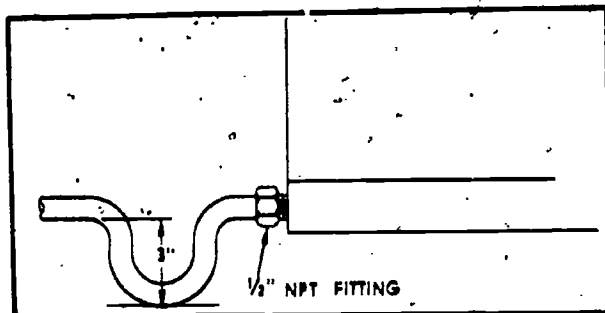

Fig 4-18. Condensate connection.
- (7) Connect a drain hose to the 1/2" NPT condensate outlet at the base of the unit. Lead the drain hose away from the unit. As shown in figure 4-18, include a 3" gooseneck trap in the drain connection next to the unit. Alternate 1/2" NPT drain connections are provided at both sides and the front of the unit. If one of the alternate drain connections is used, insert a 1/2" square-head plug in the rear drain connection.